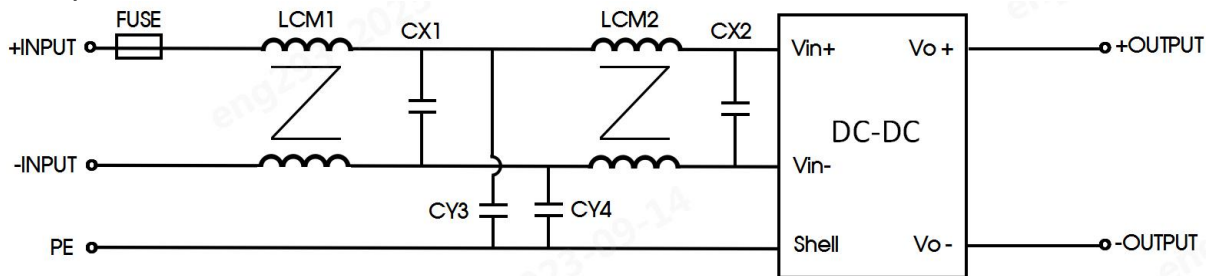
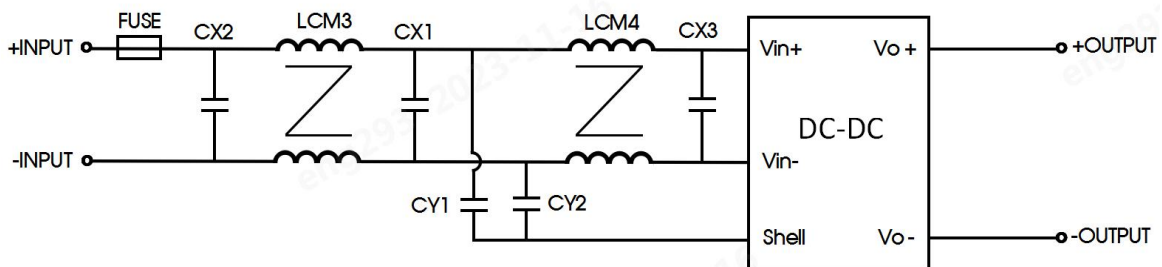

Fig. 2: CLASS I recommended circuit
Fig. 3: CLASS II recommended circuit
2. If the electromagnetic compatibility environment is harsh, please refer to Fig 2, Fig 3;